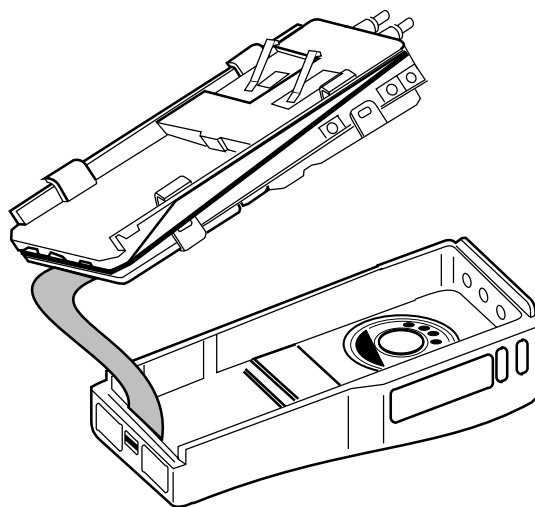

Figure 1-5. Unlatching Zif Connector
7. Remove the flexible circuit using a flat-blade screwdriver or manually unlatching the ZIF connector (Figure 1-5).